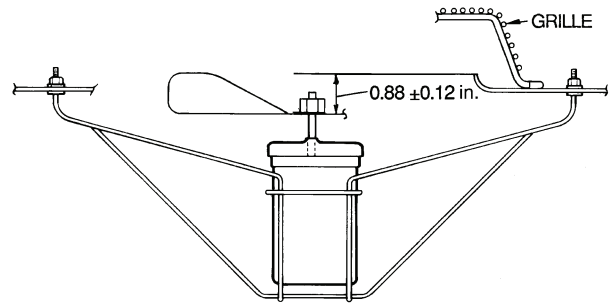

Fig. 39 — Condenser-Fan Adjustment
- Adjust fan height on shaft using a straightedge placed across venturi and measure per Fig. 39.